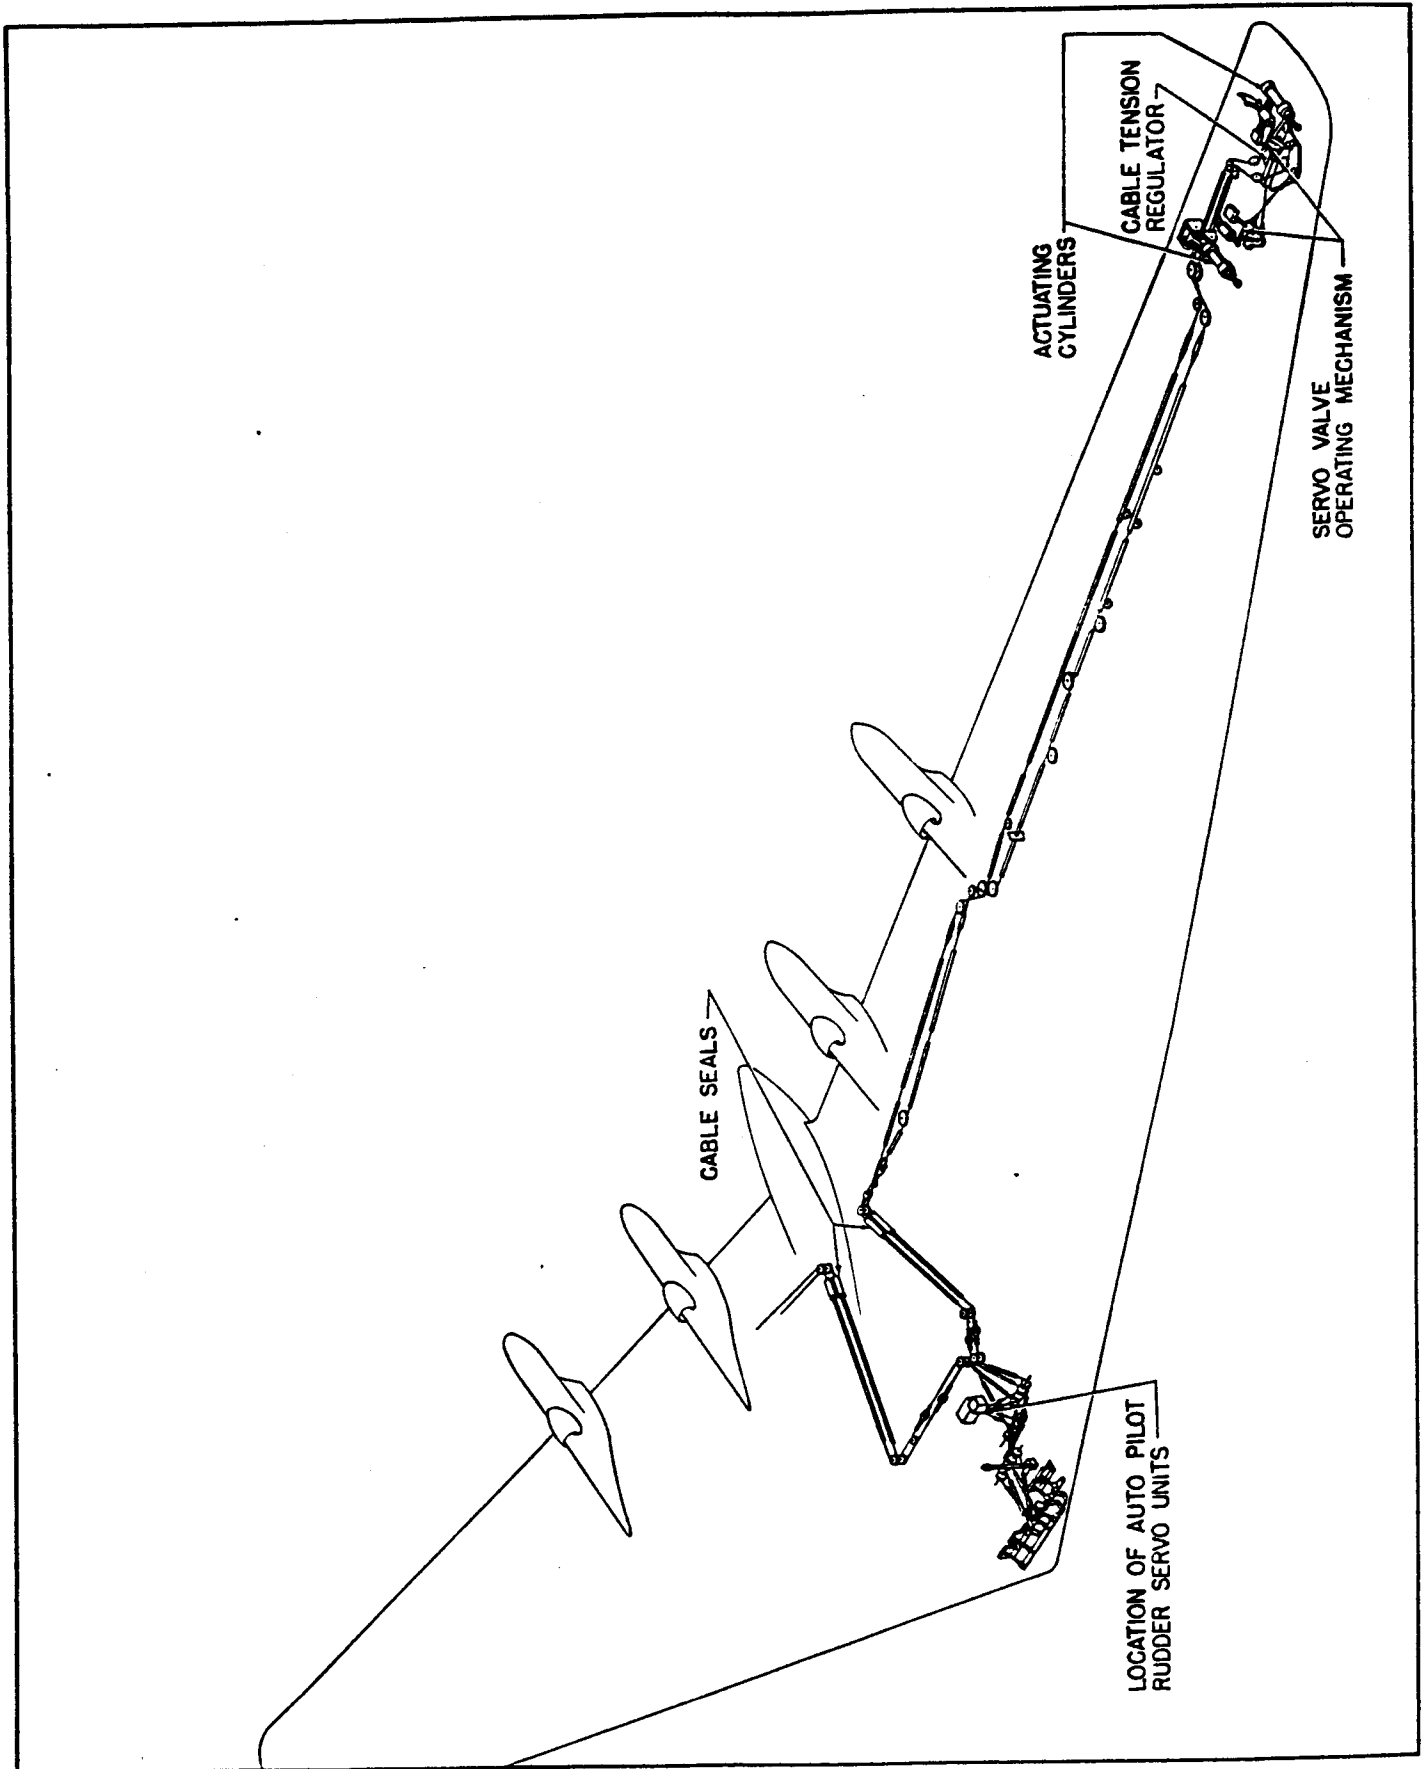

Figure 2. Rudder Control System
(2) RUDDER CONTROLS. (See figure 2.)- The rudders are cable-controlled and hydraulically-actuated. The pilot and copilot are furnished with toe pedals for control of the rudders and brakes. Push-pull rods connect the rudder pedals to torque tube assemblies, and cables extend aft and outboard along the rear wing spar to hydraulic units at each rudder. Preload spring units are attached to the copilot's rudder torque tubes. The